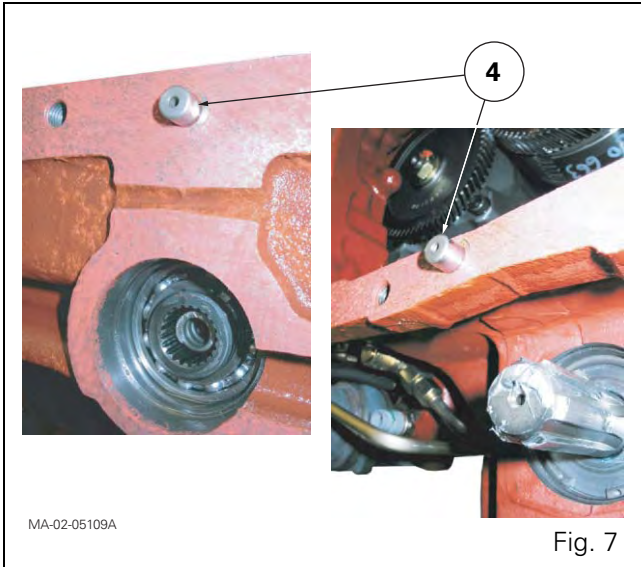

Fig. 7
28. Check the presence of dowels (4) (Fig. 7).